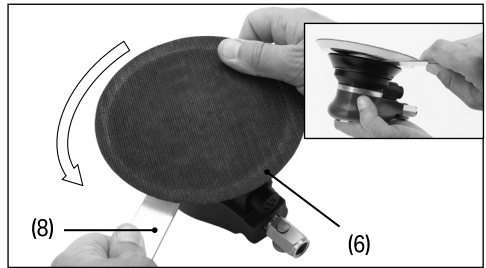

Fig. 5
7.2 Removing the Backing Pad – Fig. 5